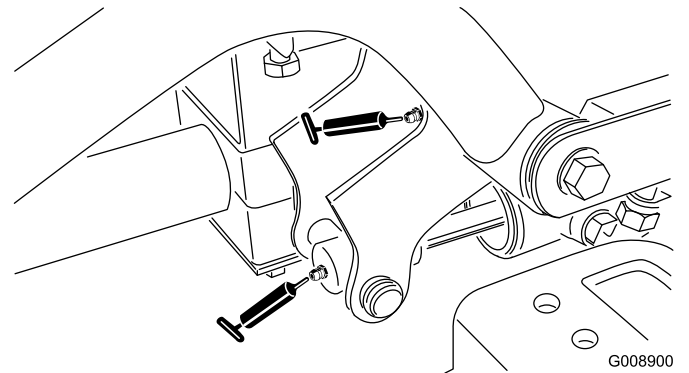

Figure 55
- Right front lift arm pivot and lift cylinder (2) (Figure 55)